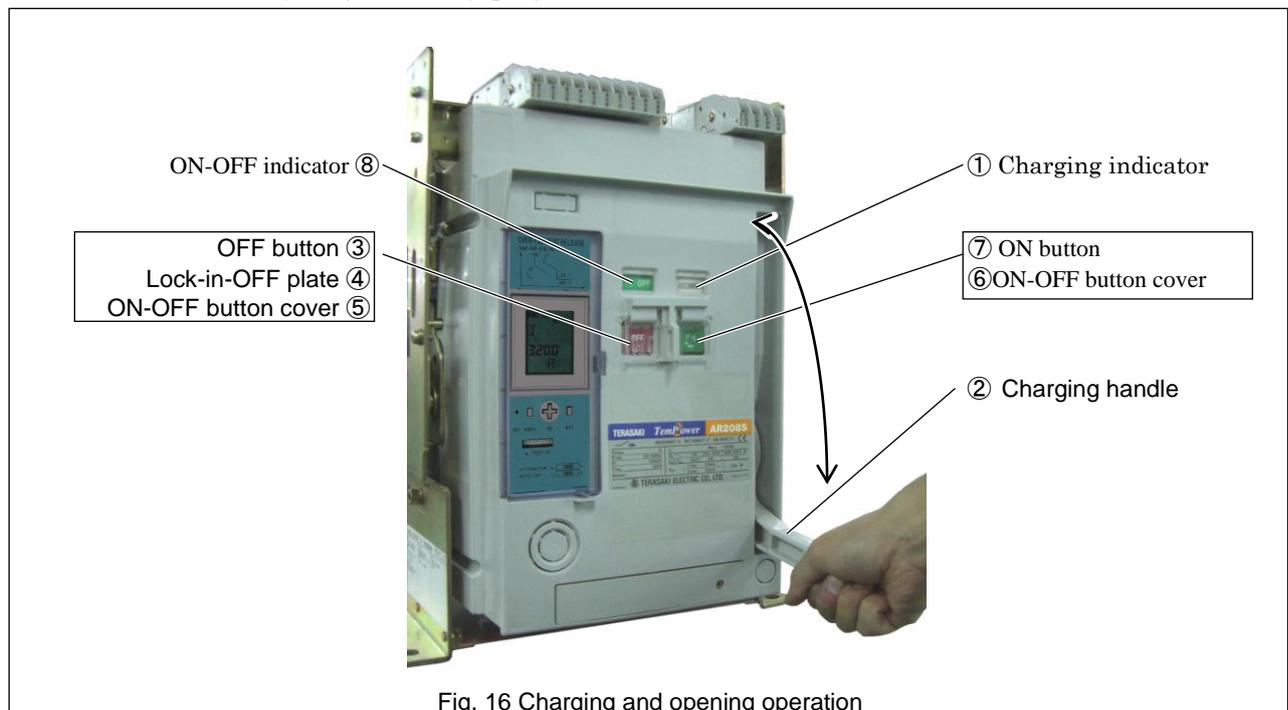

Fig. 16 Charging and opening operation
Pump the charging handle (Fig. 16 ②) until the charge indicator (Fig. 23 ①) shows “CHARGED” Pumping the handle with the full stroke 10 - 13 times will fully charge the closing springs.
When the charge indicator (Fig. 16 ①) changes to “DISCHARGED” while the specified operation voltage is applied to the control circuit terminals ② and ②, the charging motor is activated to start charging the closing springs. Upon completion of the charging operation, the charge indicator shows “CHARGED” and the charging motor is automatically deactivated. The time required for the motor charging operation depends on the operation voltage or the ACB types, but does not exceed 10 seconds.
- 1) The charge indicator (Fig. 16 ①) shows "CHARGED".
- 2) The OFF button (Fig. 16 ③) is not locked with the lock-in-OFF plate (Fig. 16 ④).
Open the ON-OFF button cover (Fig. 16 ⑤) and press the ON button (Fig. 16 ⑦). The ACB will be closed with a sound. The ON-OFF indicator (Fig. 16 ⑧) shows "ON" and the charge indicator (Fig. 16 ①) shows "DISCHARGED".
Press the ON switch shown in Fig. 10,12. The latch release coil (LRC) (Fig. 10,12) will be excited and the ACB is closed with a sound. The ON-OFF indicator (Fig. 16 ⑧) shows "ON", the charge indicator (Fig. 16 ①) shows "DISCHARGED", and the charging motor starts charging the closing springs.
Open the ON-OFF button cover (Fig. 16 ⑤) and press the OFF button (Fig. 16 ③). The ACB will trip open with a sound. The ON-OFF indicator (Fig. 16 ⑩) shows "OFF".
Press the OFF switch shown in Fig. 10,12. The shunt trip device (SHT) or the fixed type undervoltage trip device (Fig. 10,12) will be excited so that the ACB trips open with a sound. The ON-OFF indicator (Fig. 16 ⑧) shows "OFF".